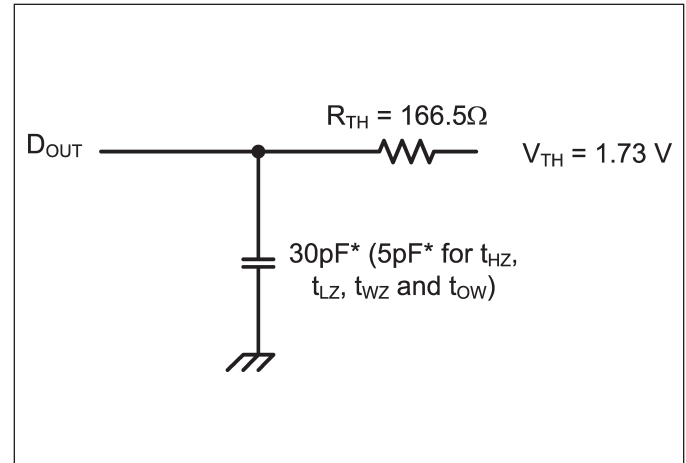

**Figure 1. Output Load**
7. Transition is measured  $\pm 200$  mV from steady state voltage prior to change, with loading as specified in Figure 1. This parameter is sampled and not 100% tested.
Output Load	See Figures 1 and 2